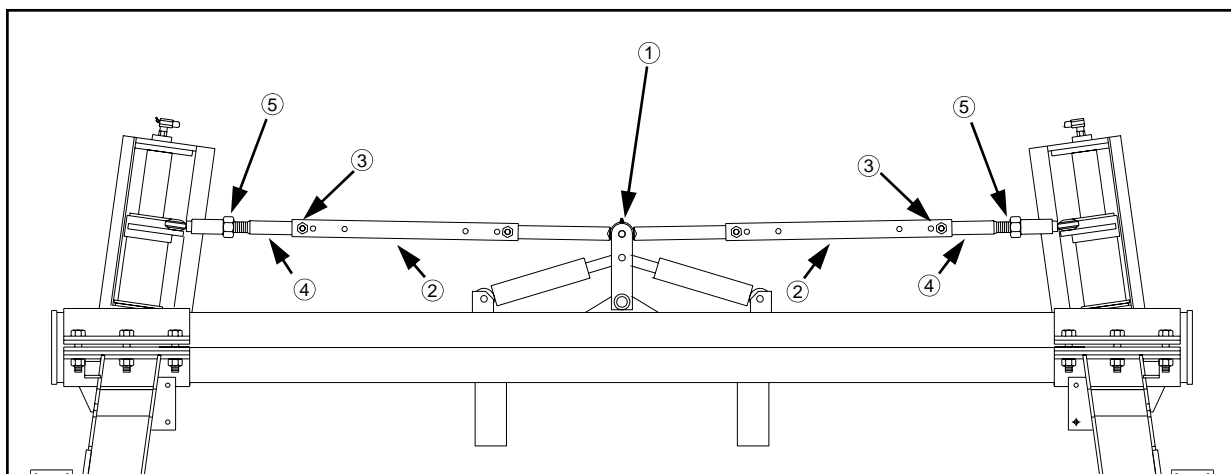

FIG 7.62
2. Turn steering wheel until center steering pivot (fig. 7.62, item 1) is vertical.
3. Loosen tie rod jam nuts (fig. 7.62, item 5).
4. Remove tie rod bolts (fig. 7.62, item 3) on outer end of tie rod tube (fig. 7.62, item 2).
6. Turn inner tie rod (fig. 7.62, item 4) in or out until the bolt hole lines up with the bolt hole in the tie rod tube. Then turn one more full turn **OUT**.